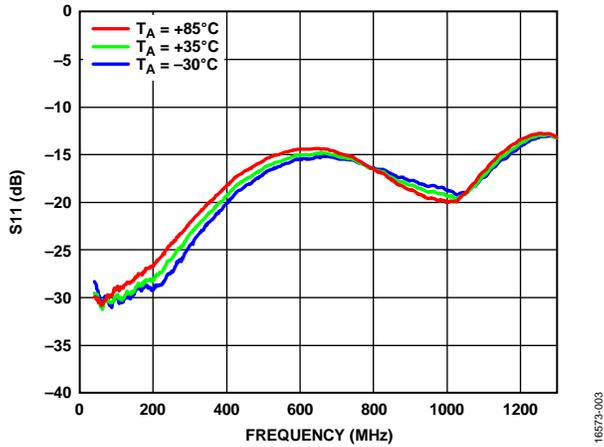

Figure 3. Input Return Loss (S11) vs. Frequency at Various Temperatures
- Low noise figure: 3 dB at 45 MHz, 4 dB at 1218 MHz**